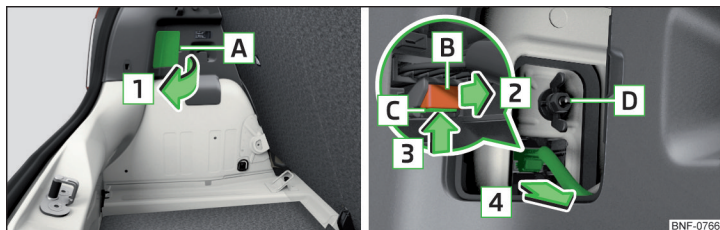

Fig. 147 Removing lamp / connector
- Open up the flap in area **A** in the direction of arrow **1** » Fig. 147.
- Screw in and tighten the plastic nut **D** » Fig. 147.